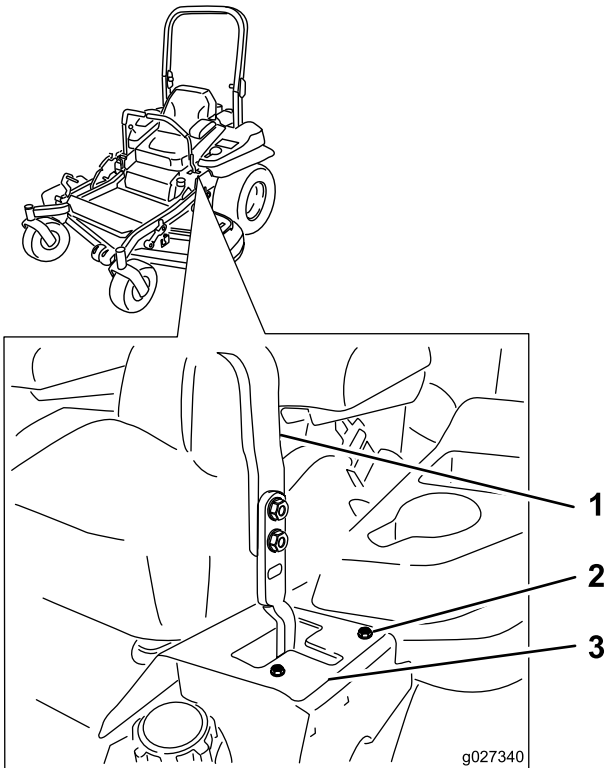

Figure 59
6. If the machine tracks to the right, loosen the bolts and adjust the left stop plate rearward on the left T-slot until the machine tracks straight (Figure 59).
7. If the machine tracks to the left, loosen the bolts and adjust the right stop plate rearward on the right T-slot until the machine tracks straight (Figure 59).
8. Tighten the stop plate (Figure 59).